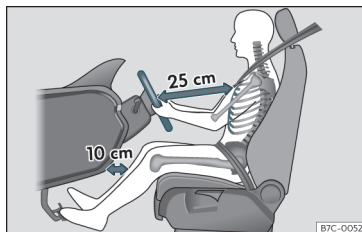

Fig. 1 The correct distance between the driver and the steering wheel must be at least 25 cm (10 inches).
- Move the steering wheel so it is at least 25 cm (10 inches) away from the steering wheel »» **Fig. 1** and you can hold it with both hands on both sides, on the outer part, with your arms slightly bent.
- Move the seat in such a way that you can step on the pedals with your knees slightly bent and with a distance between the knees and the dashboard of at least 10 cm (4 inches) »» **Fig. 1**.